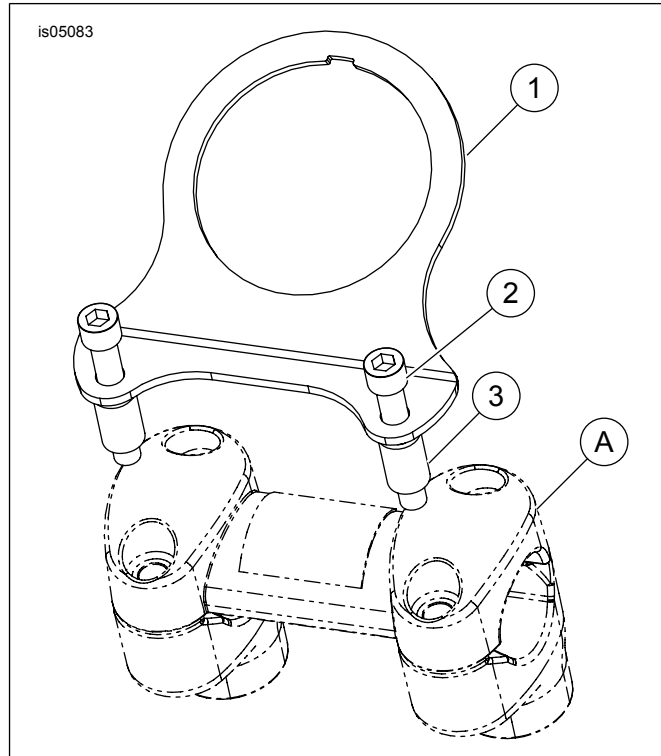

Figure 1. Service Parts: Mini-Tach Bracket Kit
See Figure 1 and Table 2.
1. See Figure 1. Remove two handlebar clamp screws.